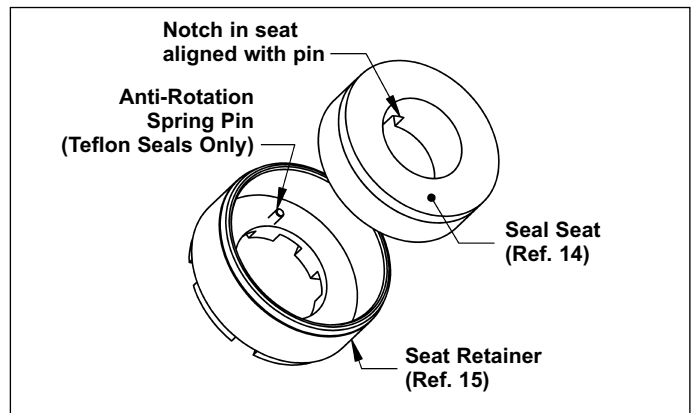

Figure 9 - Seal Seat and Retainer Assembly
- d. Press seal seat into the seal retainer (See Figure 9) using water as a lubricant. The white shiny ceramic face should be visible after pressing the seal into the seal retainer. It is recommended to use a cardboard washer or wood dowel when pushing the seal seat into the seal seat retainer. Any scratches, dirt, or fingerprints on the carbon ceramic faces will cause the seal to leak.
**NOTE:** When installing the seat for the Teflon seal, an anti-rotation pin must be installed into the seat retainer. The anti-rotation pin (Ref. No 20) is a small spring pin which must be installed into the seat retainer in the small hole. About 1/8" to 3/16" of the pin should be exposed inside of the seat retainer (Figure 9). The seal seat is then installed into the seat retainer.